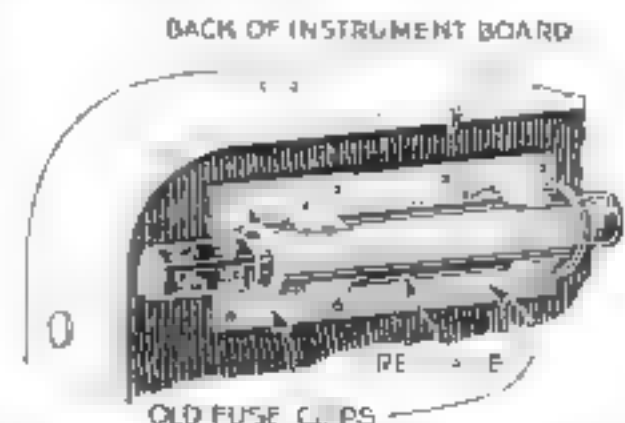

Fig. 7. A handy tire-gage holder on the dash, made from a correct-size fuse clip
**T**HERE is one place where the tire gauge does not belong, and that is in the toolkit, where it is sure to get clogged with dirt and damaged by heavy wrenches and the tire jack. A good way is to buy a fuse clip the right size so that the tire gauge will snap in tightly, as shown in Fig. 7. The clip can be fastened to the inside of the dash, where it will be protected, yet handy.